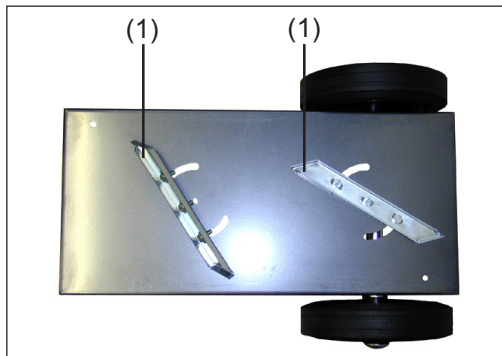

Fig.16 Insert the catches
NOTE! When fitting the two handle plates together (1), make sure that the catches (2) on the underside of the handle plates (1) slot completely into place (Fig.16 and Fig.17)